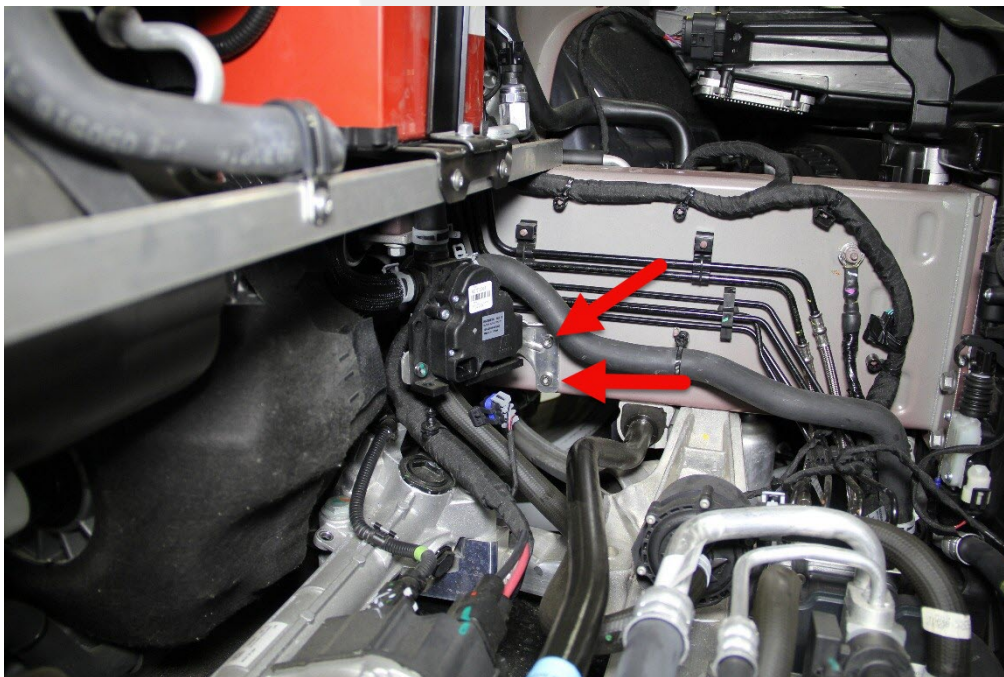

Figure 7
10. Put the 4-way coolant valve onto the side rail, and then install the 2 bolts that attach the 4-way coolant valve to the side rail (torque 5.5 Nm) (Figure 7).